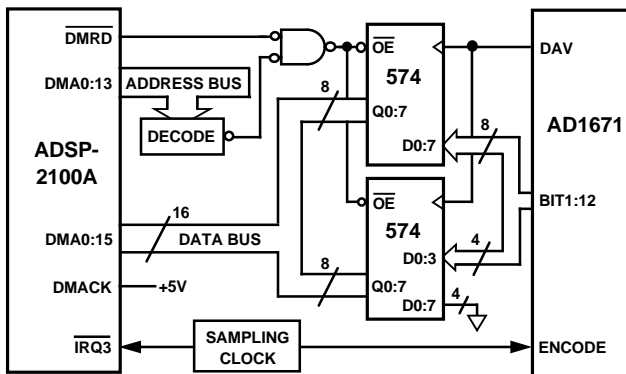

Figure 16. AD1671 to ADSP-2100A Interface
Figure 16 demonstrates the AD1671 to ADSP-2100A interface. The 2100A with a clock frequency of 12.5 MHz can execute an instruction in one 80 ns cycle. The AD1671 is configured to perform continuous time sampling. The DAV output of the AD1671 is asserted at the end of each conversion. DAV can be used to latch the conversion result into the two 574 octal D-latches. The falling edge of the sampling clock is used to generate an interrupt (IRQ3) for the processor. Upon interrupt, the ADSP-2100A starts a data memory read by providing an address on the DMA bus. The decoded address generates OE for the D-latches and the processor reads their output over the Data (D) bus. The conversion result is read within a single processor cycle.